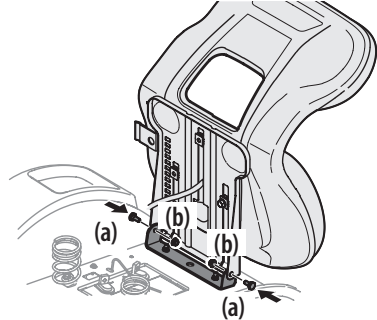

Figure 3
4. With the previously removed shoulder bolts (a) and flange lock nuts (b) secure one side of the seat and seat bracket. While supporting the seat, remove the Phillips screwdriver and secure the other side of the seat. Be careful not to crimp or damage the wire harness while installing the seat. See Figure 3. Torque to 84-103 in-lbs (9.5-11.6 N·m).